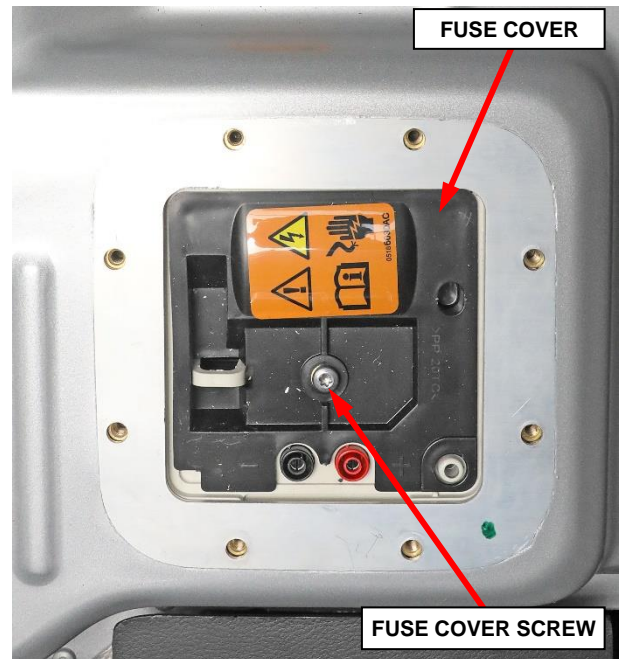

Figure 7 – Fuse Cover
- If the voltage is greater than 60 volts, an internal condition exists within the high voltage battery such as stuck contactors, that are preventing it from being powered down. This should be accompanied by contactor stuck DTCs. Do not attempt to carry out testing on any of the vehicle's high-voltage components or wiring. The HV Battery Pack requires replacement. Reference the HV BATTERY SERVICING WITH WELDED CONTACTOR(S) procedure at the top of the HV PHEV BATTERY REMOVAL AND INSTALLATION procedure for safely removing a high voltage battery that will not power down (Refer to 08 - Electrical/Battery System/BATTERY/Removal and Installation).
1. Remove the fuse cover screw then remove the fuse cover (Figure 7).
10. Install the fuse cover then tighten the cover screw to 6 N·m (53 in. lbs.) (Figure 7).